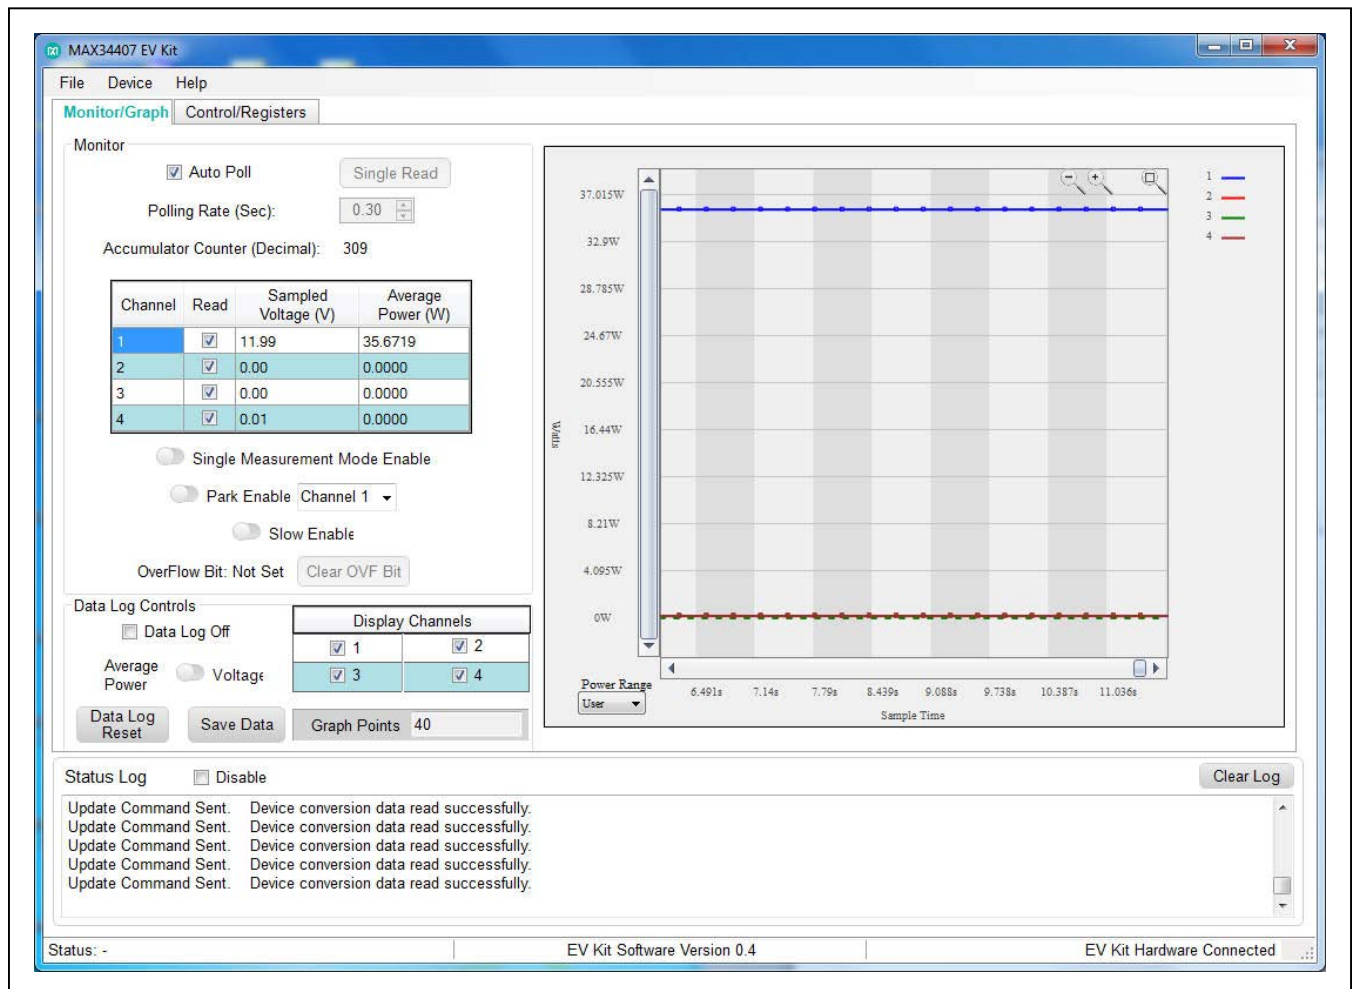
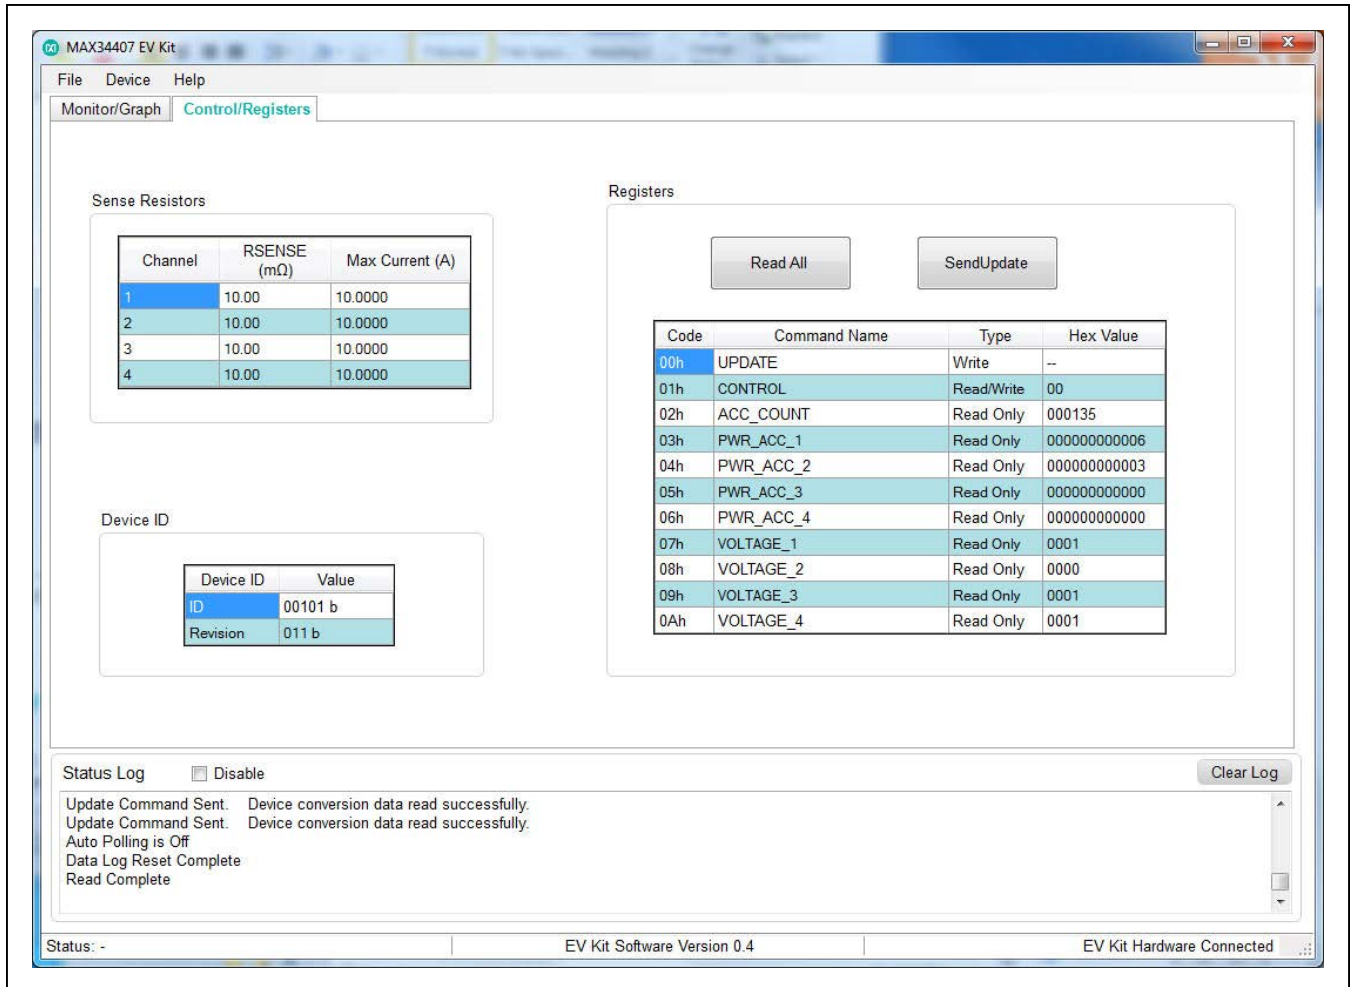

Figure 1. MAX34407 EV Kit GUI (Monitor/Graph Tab)
Figure 2. MAX34407 Control/Registers Tab
The **Monitor/Graph** tab sheet (Figure 1) displays all the accumulator values. In the **Monitor** group box table, the **Polled** values are the Accumulator values read from PWR_ACC_1 to PWR_ACC_4 (03h to 06h) that are converted to amps using the **RSENSE** value in the **Control** table shown in Figure 2. The **Sampled Voltage** and **Average Power** columns track the voltage and average power of the **Polled** value for each channel. All values on the tab are read when the tab is selected or when the **Read** button is clicked. The **OC** status bits are cleared after every read. Check the **Auto Poll** checkbox to continuously read every 0.3s.
The **Control/Registers** tab sheet (Figure 2) displays all the SMBus commands and their current values. In the **Control** group box table, the **RSENSE (mΩ)** column is the value of the resistor (R3X–R4X) between IN+ and IN- signals. The **Max Current (A)** column displays the maximum current threshold converted to amps using the **RSENSE** value.